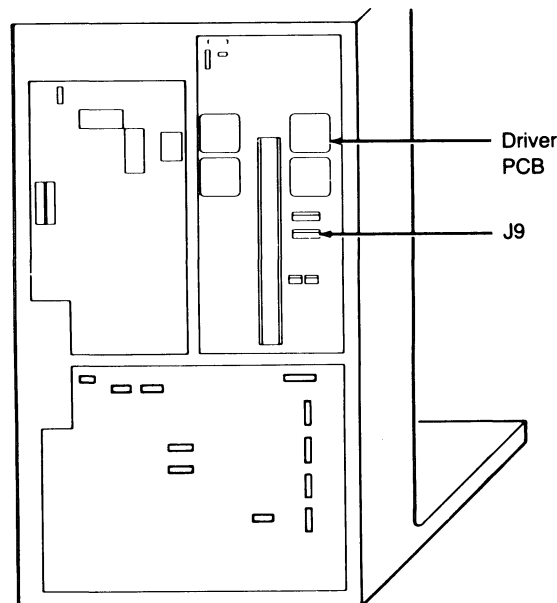

Figure 5.34 J9 Location
3. Connect the oscilloscope probe (Channel A) to J9 pin 8 (the blue wire) on the Driver PC board (see Figure 5.34).